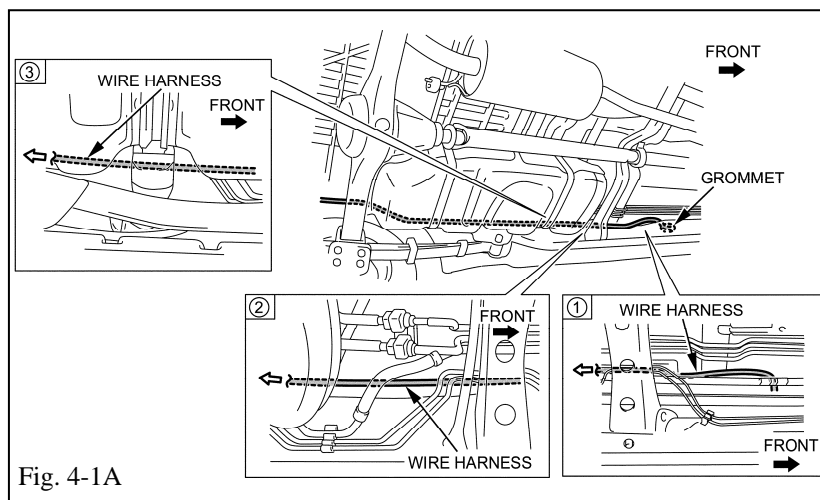

Fig. 4-1A
- (1) Route the 4-pin wire harness as shown in the figure. (Fig. 4-1A)